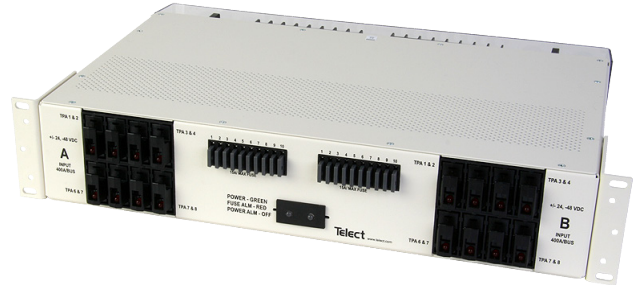

Figure 1 - Model 009-8005-0810
- Figure 1 - Model 009-8005-0810 1